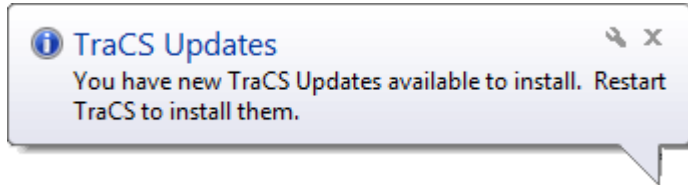

Figure 155. Optional Update Available Window
1. Log in to TraCS. If optional updates are available the **TraCS Update** icon in the notification area displays the “You have new TraCS Updates to install. Restart TraCS to install them.” notification, as shown in Figure 155.